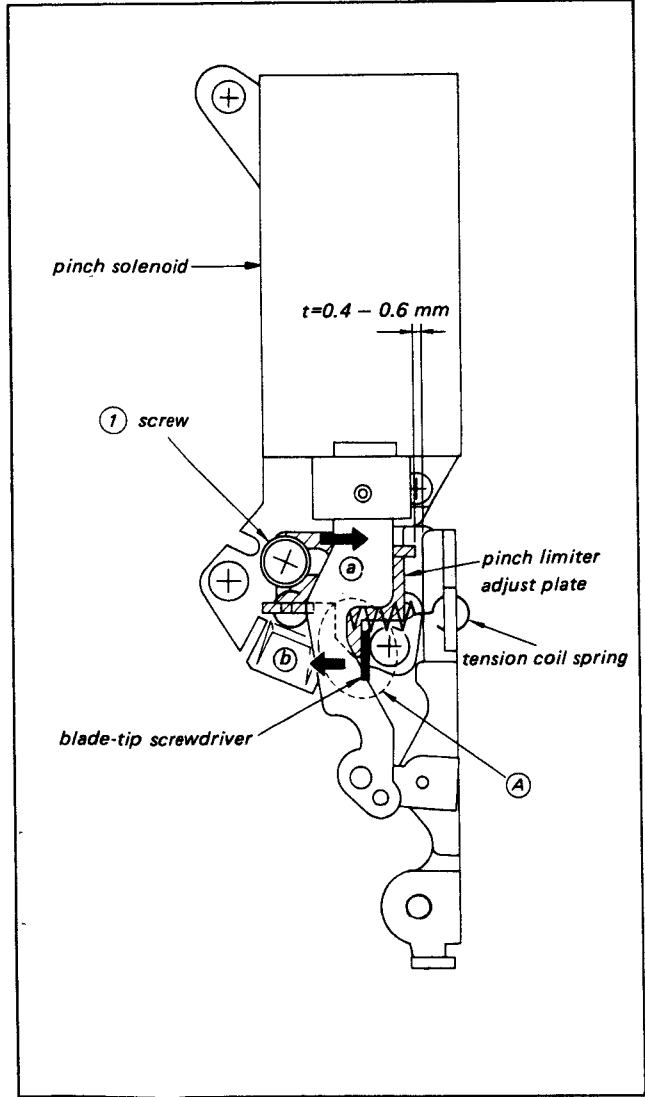

Fig. 3-28. Pinch Press Limiter Clearance Adjustment
- 2) Check that the clearance "t" of the pinch press limiter in Fig. 3-28 is 0.4 — 0.6 mm. If not, adjust as follows:
- 1) Loosen screw ① in Fig. 3-28 with the pinch solenoid held in.
- 2) Move the pinch limiter adjust plate (shaded in the diagram) fully in the direction of arrow ①. The clearance "t" at this time is 0.
- 3) Push the pinch limiter adjust plate in the direction of arrow ② as shown at section A using a blade-tip screwdriver, until the clearance "t" is 0.4 — 0.6 mm.